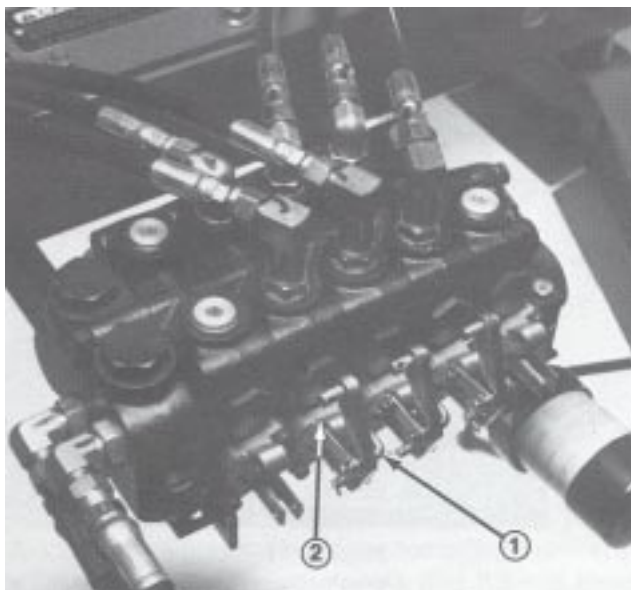
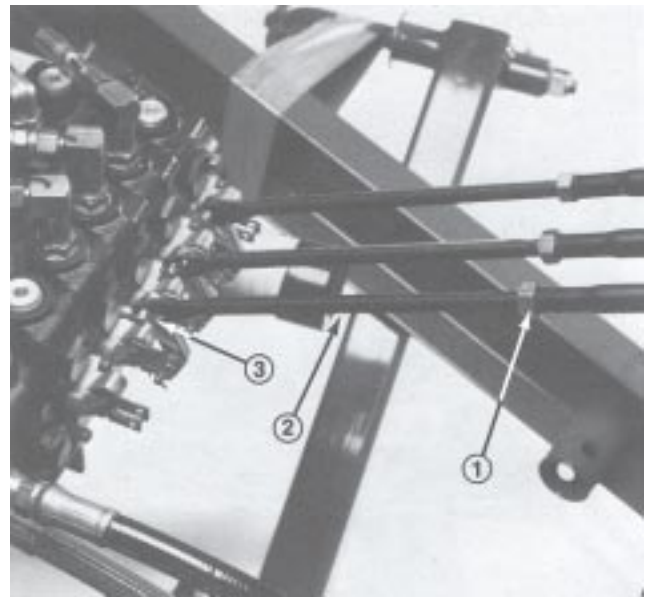
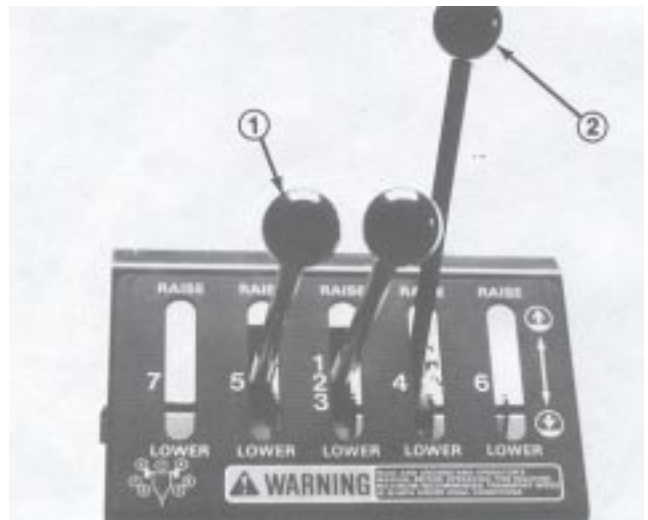

Figure 9
Figure 10
Figure 11
4. Check to make sure valve spool levers (Fig. 9) are in neutral (middle position) by pivoting levers in toward valve, or pulling them out to find mid position. Coat all pivot points with #2 gun grease or lubricate with #30 SAE oil.
5. Thread 7/16-14 hex nuts onto lower control rods. Partially thread lower control rods into upper control tubes (Fig. 10). Coat threads with #2 gun grease.
6. Align hole on end of lower control rod (Fig. 10) with mounting pin in control valve lever (Fig. 9). Lever on control tower should be in center of slot (neutral position) if adjusted correctly (Fig. 11). Thread lower rod into or out of upper control tube to adjust. After each lever is adjusted, check to make sure all levers are aligned with each other. Readjust if necessary.
7. Secure control rods to control valve levers with cotter pins (Fig. 10).
9. When adjusted correctly, tighten jam nuts on lower control rods (Fig. 10).